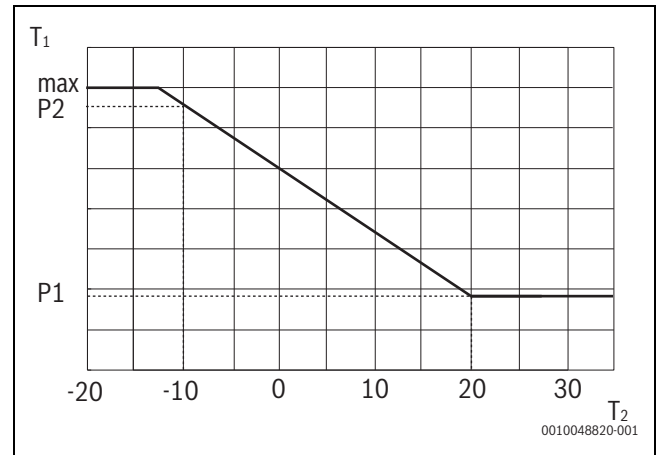

Fig. 51 Heating curve
- ▶ The heating curve can be adjusted in the service menu by changing P1 and P2 to set up a basic heating curve as indicated in → Fig. 51